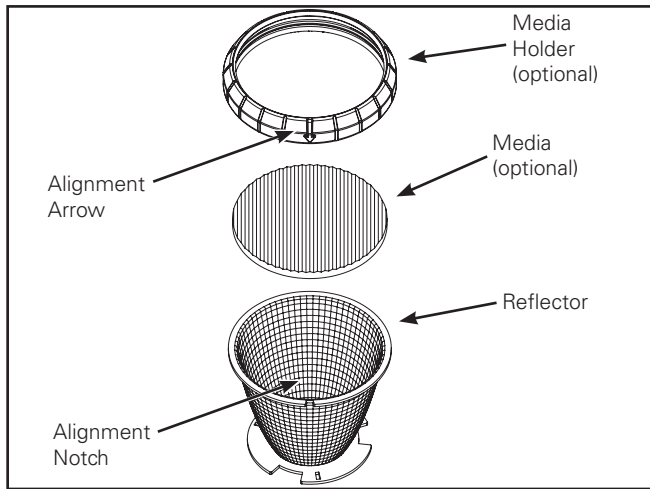
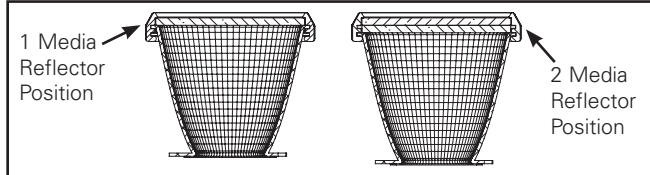

Figure 5.
Figure 6. & 7.
1. Remove Optic from protective packaging and remove rubber Media Holder (Optional) ring to install any optional Media (Figure 5). To re-attach Media Holder to Reflector start with Alignment Arrow at Alignment Notch and work around flange. For 1 piece of Media (optional) place the Reflector in the upper position (Figure 6 & 7) and for 2 pieces of Media (optional) place the Reflector in the lower position (Figure 6 & 7).